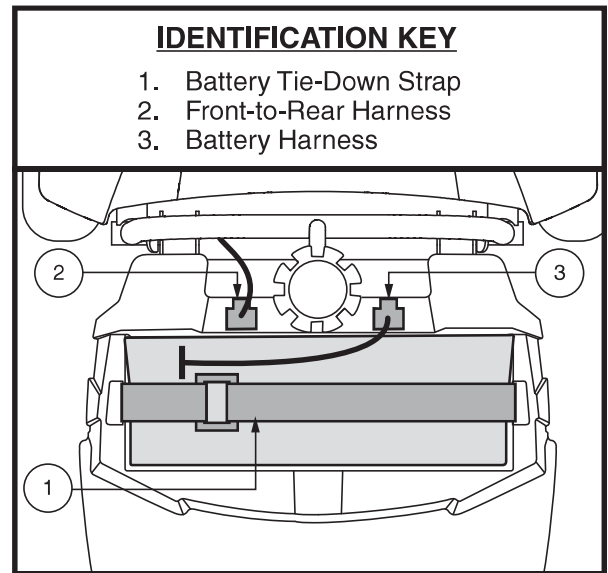

Figure 20. Battery Tie-down Strap
1. Disconnect the battery harness and remove the battery pack from the Travel Scooter. See figure 20.
2. Disconnect the battery harnesses and tie-down strap then remove the battery pack from the Travel Scooter. **See figure 20.**